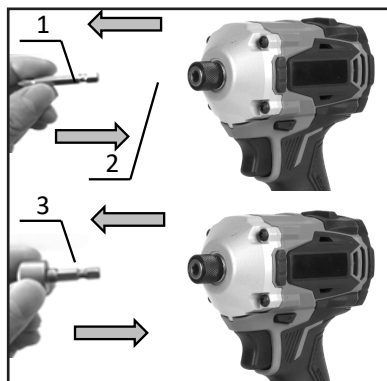

Fig. 9
- To install the driver bit or socket bolt, pull the sleeve in the direction of the arrow and insert the driver bit or socket bolt into the sleeve as far as it will go. Then release the sleeve to secure the driver bit. (Fig. 9)